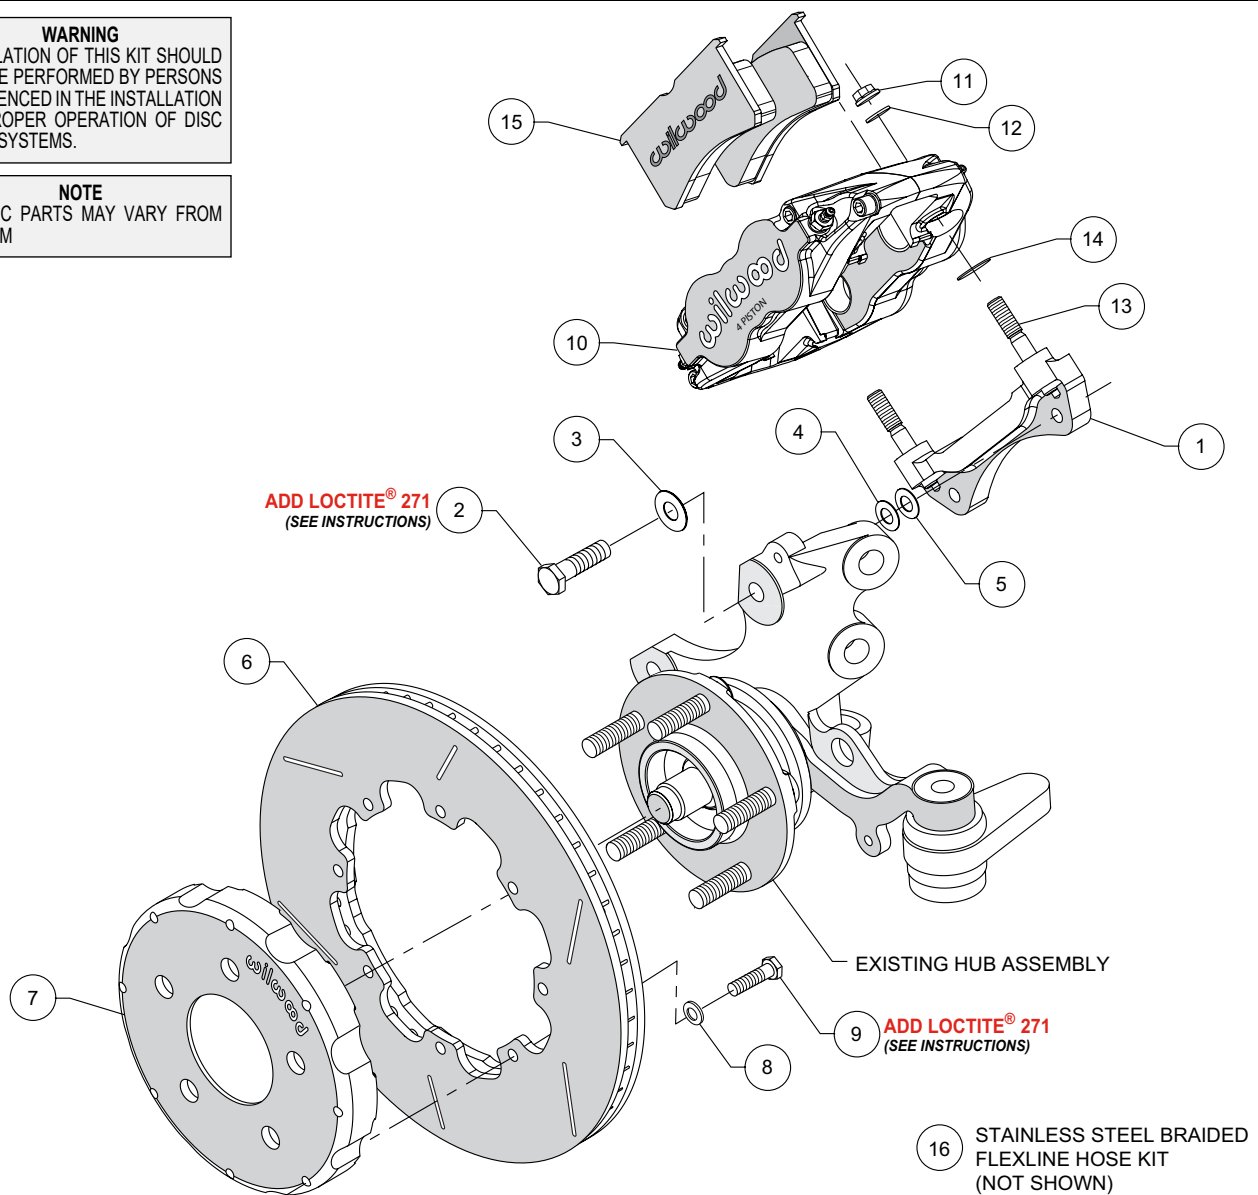
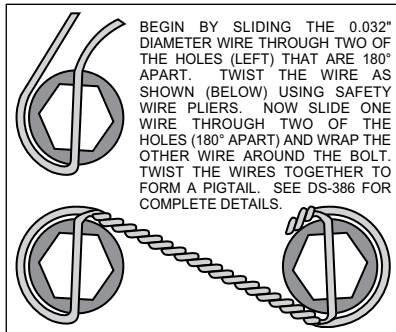

Figure 1. Typical Installation Configuration
Figure 4. Safety Wire Diagram
**NOTE:** Numbers in parenthesis refer to the parts list and Figure 1 on the preceding pages.
•The caliper mount bracket assembly (1) should be installed first with clean, dry threads on the mounting bolts. Install the bracket on the inboard side of the spindle by sliding bolt (2) through flat washer (3), and spindle mounting ear from the outboard side of the spindle. Place two shim washers (4) between the bracket (1) and the spindle (see figure 1). The bracket must tighten squarely against the inboard side of the modified caliper mount bosses on the spindle body. Inspect for interference from casting irregularities, machining ridges, burrs, etc. Later, after the caliper, pad, and rotor alignment has been checked, and any necessary shims have been put in place, the mount bolts should be coated with red *Loctite*® 271 and torqued to 65 ft-lbs.
•With the larger I.D. side of the rotor (6) facing away from the hat (7), attach the rotor (6) to the hat (7) using washers (8) and bolts (9) as shown in Figure 1. Apply red *Loctite*® 271 to the bolt threads and torque to 25 ft-lbs using a criss-cross pattern. For an added measure of security, the bolts may be safety wired using standard 0.032 inch diameter stainless steel safety wire as shown in Figure 4. Please refer to Wilwood's data sheet DS-386 (available at [www.wilwood.com/Pdf/DataSheets/ds386.pdf](http://www.wilwood.com/Pdf/DataSheets/ds386.pdf)) for complete safety wire installation instructions.
•Install two shims (14) over each stud (13) on the radial mount bracket. Slide the caliper (10) in place over the studs and rotor and install the washer (12) and lock nut (11) to hold the caliper in place. The caliper bleed screws should be pointing up. Snug the lock nuts (11) and check that the rotor (6) is centered in the caliper (10). Add or subtract shims (4 and/or 5) as necessary between the mount bracket and the spindle to center the caliper.